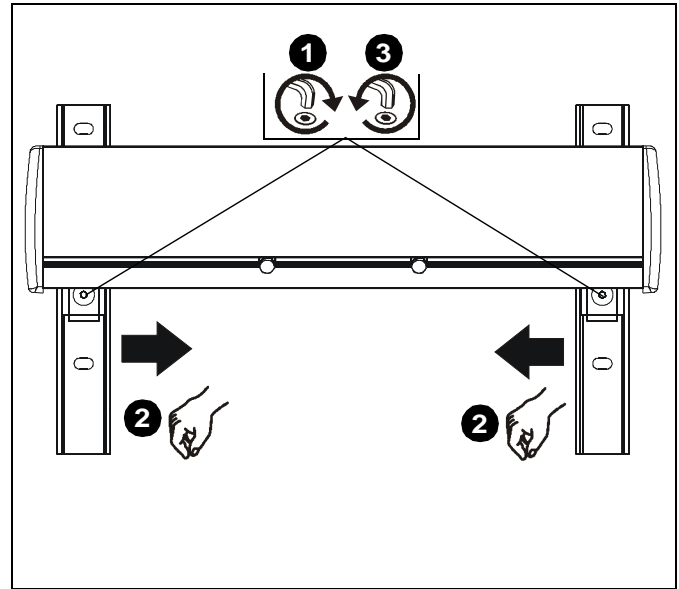

Figure 32
1. Loosen two flat head cap screws on wall bracket. (See Figure 32)
2. Slide wall brackets to corresponding width of studs. (See Figure 32)
3. Tighten two flat head cap screws on wall bracket. (See Figure 32)